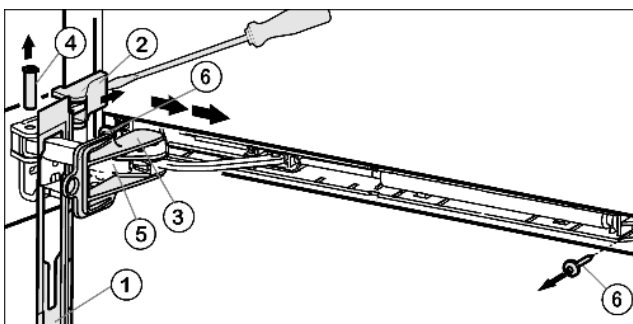

Fig. 9
- ▶ Slide the faceplate forwards over the soft stop bracket *Fig. 9 (5)* in the direction of the appliance.
- ▶ Snap the safety lock *Fig. 9 (3)* into the oblong hole.
- ▶ Using a screwdriver, lift off the cover *Fig. 9 (2)* from the outside and remove it in an outward direction.
- ▶ Press the pin *Fig. 9 (4)* out from underneath.
- ▶ Press the soft stop bracket *Fig. 9 (5)* towards the door.
- ▶ Remove the faceplate *Fig. 9 (1)*.
- ▶ Unscrew the entire soft stop unit (2x Torx 15) *Fig. 9 (6)*.